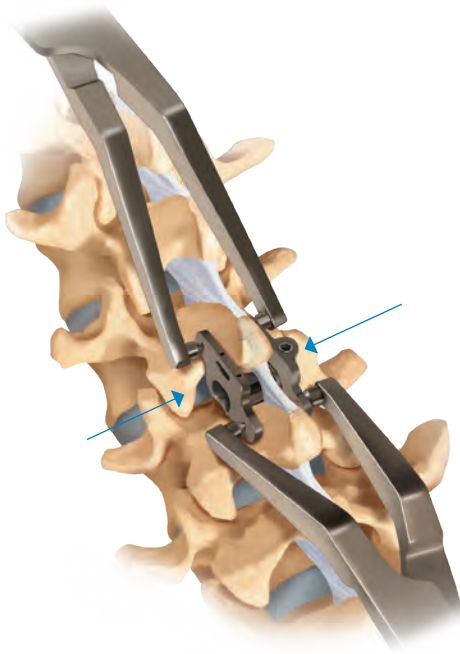

Figure 21
- Using the compressors, clamp the plates against the spinous processes, driving the spikes into the bone (**Figure 21**).